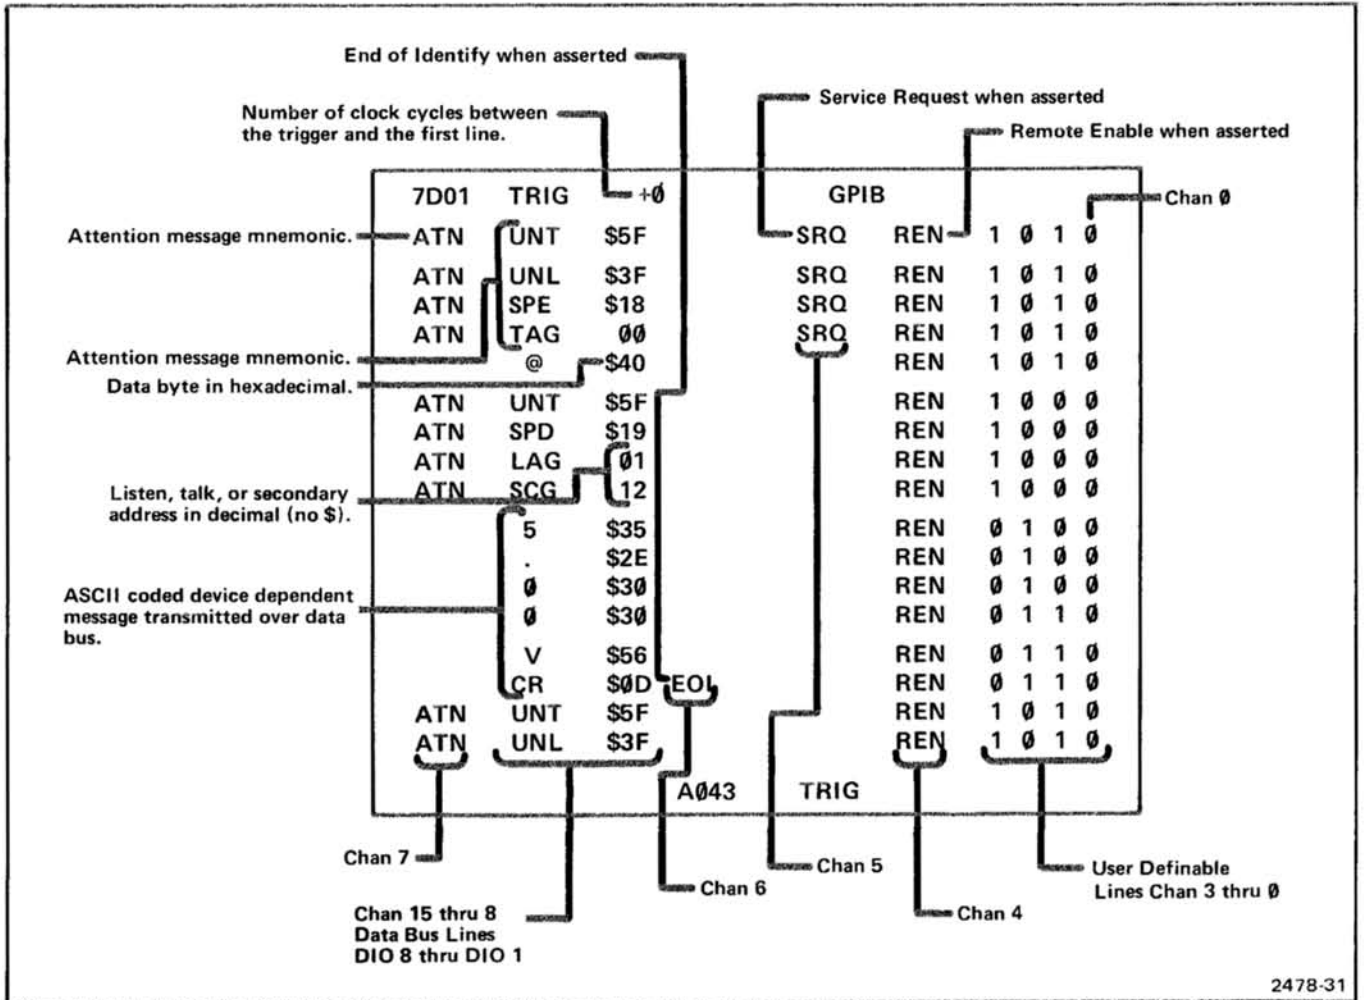

Figure 3-7. Typical DF GPIB display showing disassembled instructions in IEEE Standard 488-1975 message mnemonics.
- c. Each line (bus transaction) on the crt contains data information from the interface bus. Up to 16 bus lines may be connected through the GPIB Adapter via the P6451 probes to the 16 channels in the 7D01. Figure 3-7 depicts the relationship of the 16 channels in the 7D01 to each line readout on the crt display and describes the mnemonic representation of the GPIB signal lines.
The four user-definable lines may be connected to the three handshake lines (DAV, NRFD, and NDAC) and control line (IFC) at the GPIB Adapter connector. Or, if desired, they may be connected to other points within the user's circuitry. The binary value of each line is displayed on the right of the crt. See Figure 3-7.